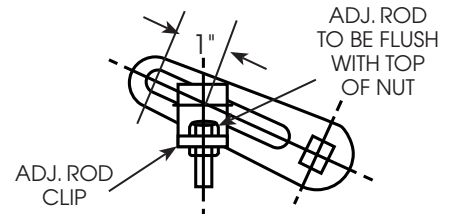

Figure 7
4. Reposition adjustable rod clip as shown in Figure 7 and secure in place.
3. Attach adjustable rod to adjustable rod clip as shown in Figure 7.